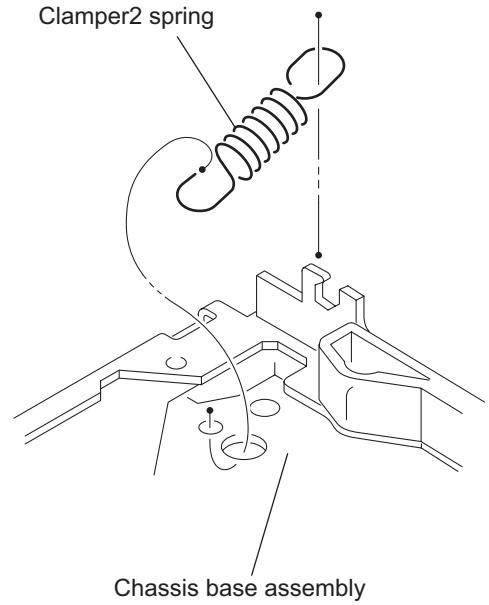

Fig.6
- (3) Move the clamber unit in the direction of the arrow and turn. Release the two joints **e** and **f**, then remove the clamber unit upward. (See Fig.6.)